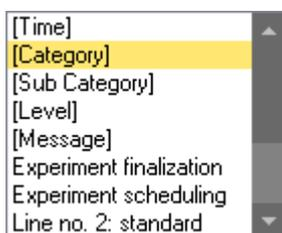

Figure 6-45. Argument drop-down menu of Custom Filter dialog
- Click  of the right column to open the **Argument** drop-down menu, see Figure 6-45.